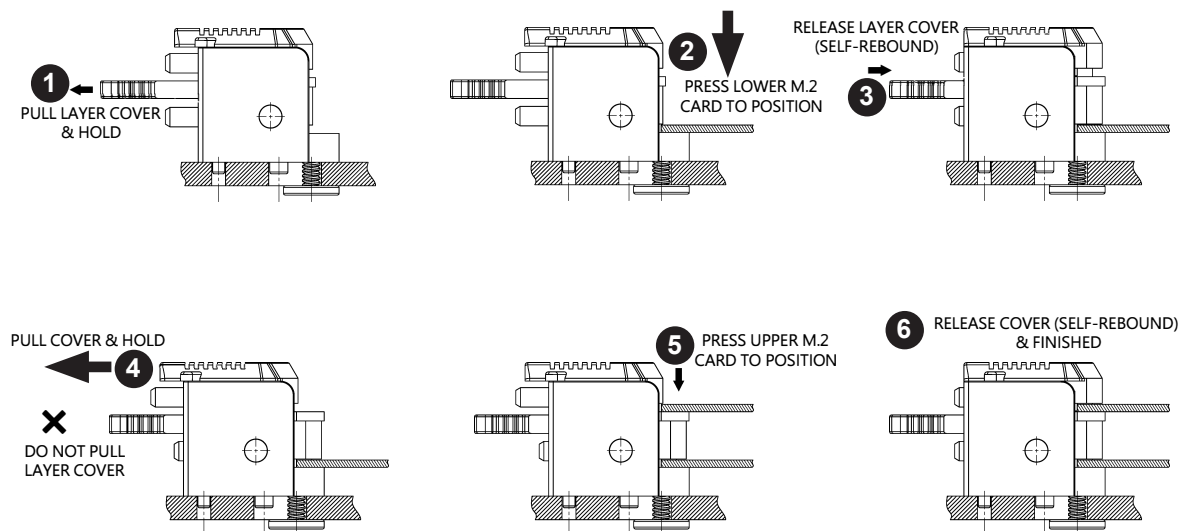

Figure 3-21. Release Lever and SSD
3. Insert a PCIe Gen 3 x4 M.2 SSD into the lower J7 slot. Next, follow the instructions from ❶ to ❸ in Figure 3-21.
4. Insert a PCIe Gen 3 x2 M.2 SSD into the upper J7 slot. Next, follow the instructions from ❹ to ❺ in Figure 3-21.